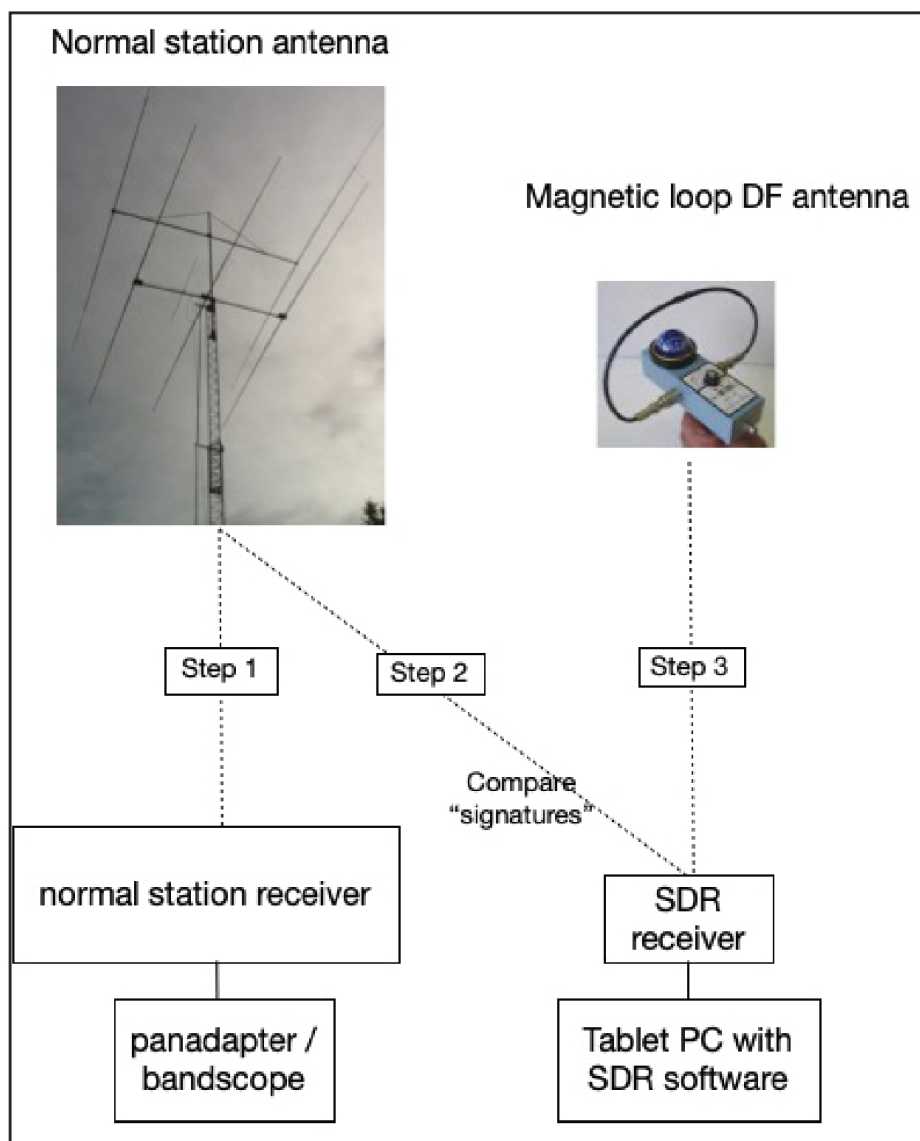

Figure 1 — Block diagram showing three steps of confirming RFI source signature.
bandwidth displays. Having an RFI "signature" allows you to transition from watching RFI on the station scope to identifying the same source on your portable DF setup (see Figure 1). In this way you will be tracking the source that is actually contributing to your noise floor. On one occasion, I could not seem to get a signature of a particular noise source until I set the SDR display to 3 kHz. Only then did I see 10 dB "spikes" occurring once every 60 Hz. That allowed me to transition confidently to the SDR and DF setup and quickly locate the source. It was a refrigerator that cycled on and off periodically. This was cured by ferrite chokes on the ac power cord.
Portable Receiver to Use in the Field. Such a receiver ought to have a relative strength meter, capability to receive in the ranges of HF bands and modes you operate as well as in the VHF range. It should also receive AM. I started using the Tecsun PL660. It is nice, because it is very portable, has SSB, CW, and AM, and covers the ham bands as well as the aircraft band in the 118 – 137 MHz range. It has a segmented LED S-meter, but it lacks a spectrum scope and other display functions of an SDR. Panadapters with spectrum and waterfall displays greatly assist in determining an RFI source's signature. The high-end professional electrical utility market has devices available from Radar Engineers (Model 243). SDR receivers used with SDR software have continued to develop. They are now an extremely capable, useful and inexpensive tool for RFI tracking. With an SDR, SDR software and a small portable computer we can now identify an RFI source's signature and track it down in the field. As shown in Figure 1, it goes like this: (1) Start by looking at the RFI on a normal station receiver and antenna. (2) Change receivers (with the same station antenna) to the SDR being sure you are seeing the same RFI source. (3) Change to the DF loop. And, voilà, (4) you are ready to go off to locate the same RF source that is on your radio. The SDR receiver I use is SDRPlay's RSP2. There are many others.